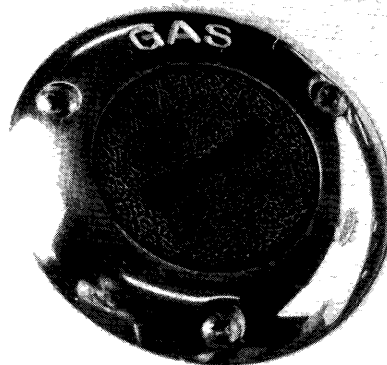

Figure 16
5. A special key to unlock the fuel cap is given to you. Insert the key in the slot in the fuel cap. The fuel cap for the port fuel tank is midship in the covering board on the port side of the boat. The fuel cap for the starboard fuel tank is midship in the covering board on the starboard side of the boat. See figure 16.